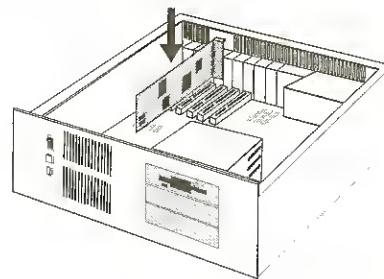

Figure 2-7: Inserting 3DO Blaster into slot.
6. Align your 3DO Blaster's gold-striped expansion bus connector with the free expansion slot and gently lower your 3DO Blaster into the slot (see Figure 2-7).